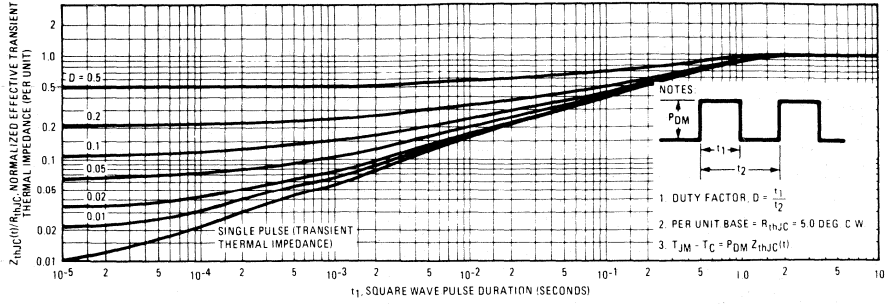

Fig. 5 – Maximum Effective Transient Thermal Impedance, Junction-to-Case Vs. Pulse Duration
① $T_J = 25^\circ\text{C}$ to 150°C . ② Pulse Test: Pulse width $\leq 300\mu\text{s}$, Duty Cycle $\leq 2\%$.
③ Repetitive Rating: Pulse width limited by max. junction temperature. See Transient Thermal Impedance Curve (Fig. 5).